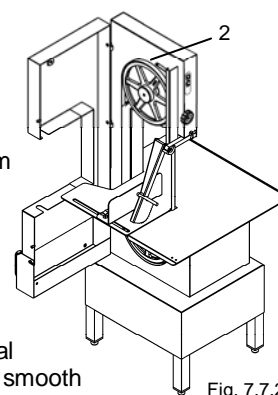

Fig. 7.7.2
- Grip blade "2" and remove from pulley as illustrated in fig. 7.7.2 and 7.7.3